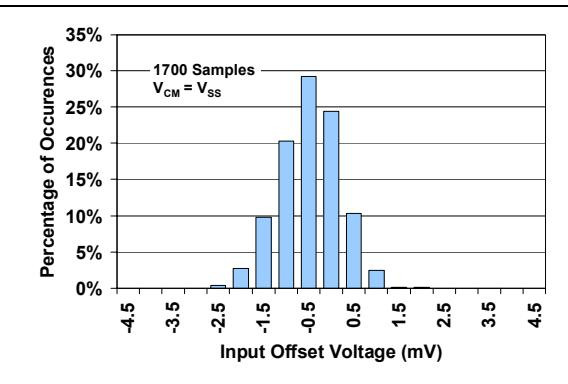

**FIGURE 1-1:** AC and DC Test Circuit for Most Specifications.
**Electrical Characteristics:** Unless otherwise indicated,  $V_{DD} = +1.4V$  to  $+6.0V$ ,  $V_{SS} = GND$ ,  $T_A = +25^\circ C$ ,  $V_{CM} = V_{DD}/2$ ,  $V_{OUT} \approx V_{DD}/2$ ,  $V_L = V_{DD}/2$  and  $R_L = 1 \text{ M}\Omega$  to  $V_L$ . (Refer to Figure 1-1).
**Electrical Characteristics:** Unless otherwise indicated,  $T_A = +25^\circ\text{C}$ ,  $V_{DD} = +1.4\text{V}$  to  $+6.0\text{V}$ ,  $V_{SS} = \text{GND}$ ,  $V_{CM} = V_{DD}/2$ ,  $V_{OUT} \approx V_{DD}/2$ ,  $V_L = V_{DD}/2$ ,  $R_L = 1\text{ M}\Omega$  to  $V_L$  and  $C_L = 60\text{ pF}$ . (Refer to Figure 1-1).
The circuit used for most DC and AC tests is shown in Figure 1-1. This circuit can independently set  $V_{CM}$  and  $V_{OUT}$  (see Equation 1-1). Note that  $V_{CM}$  is not the circuit's Common Mode voltage  $((V_P + V_M)/2)$ , and that  $V_{OST}$  includes  $V_{OS}$  plus the effects (on the input offset error,  $V_{OST}$ ) of the temperature, CMRR, PSRR and  $A_{OL}$ .